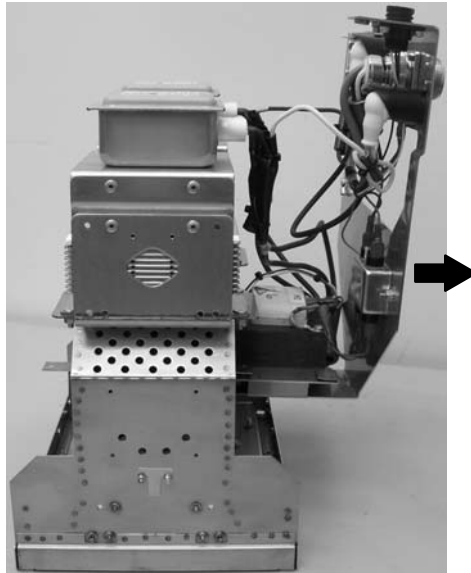

Figure 6-17 Removing the Transformer Bracket (External Blower Version Shown)
5. See Figure 6-17. Pull the the transformer bracket from the wave guide assembly far enough out to access the wiring connections.